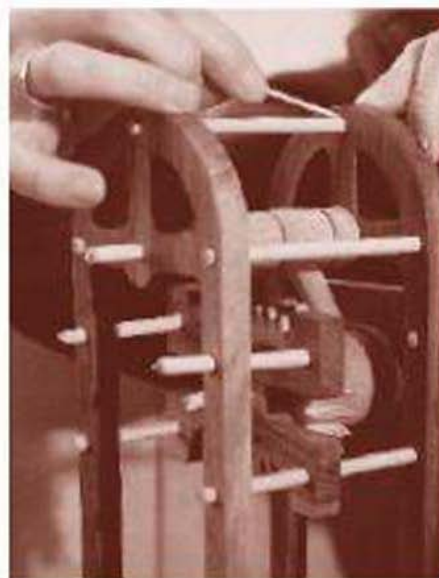

FIGURE 13-20
- 9** You might find it necessary to use the fine-point rounded toothpicks as temporary wedge pins. Set the frames the required distance apart and push the toothpicks in to hold (Fig 13-20).